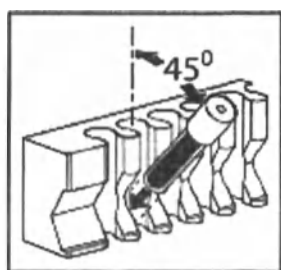

Figure 1
- A. Position indicator in metal block (see Figure 1). Place bottom of the indicator into the incubator's metal heating block so that the indicator is at an angle of approximately 45° .